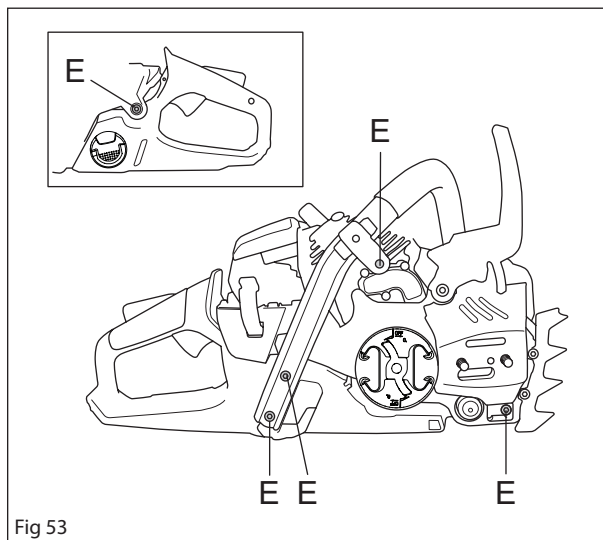

Fig 53
4. Loosen the screws E. See figure 53.
5. Tighten the screws E. See figure 53.